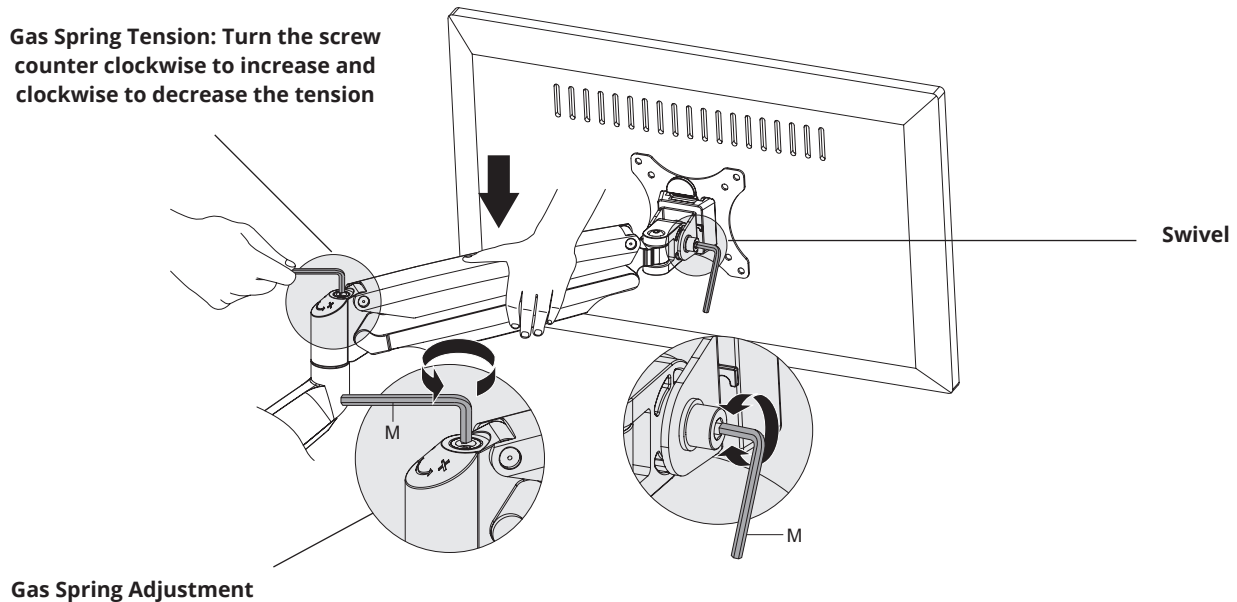

Figure 11
1. Adjust the tension of the gas spring using a 6mm Allen Key (M), turn the screw counter clockwise to increase the tension and clockwise to decrease the tension, see Figure 11.
2. Adjust tightness of the Monitor Tilt and Swivel using a 6mm Allen Key, see Figure 11.